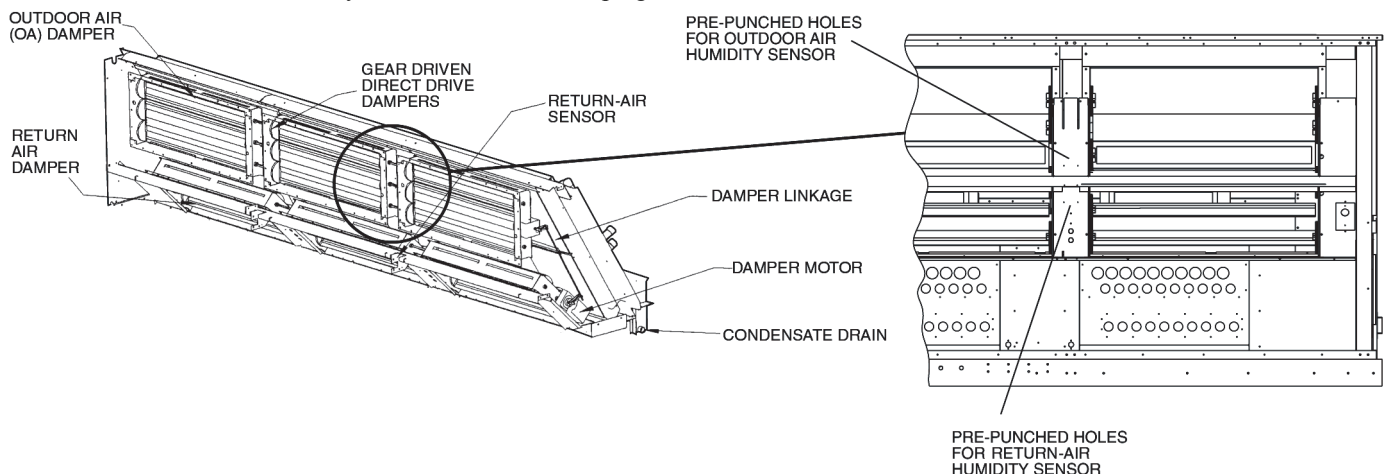

Fig. 5 — Typical Outdoor and Return Air Humidity Sensor Locations for 48/50A Series Units
2. Install the outdoor air humidity sensor on the economizer using the screws provided (see Fig. 5). Attachment holes are pre-punched.
2. Install the return air humidity sensor on the economizer using the screws provided (see Fig. 5). Attachment holes are pre-punched.